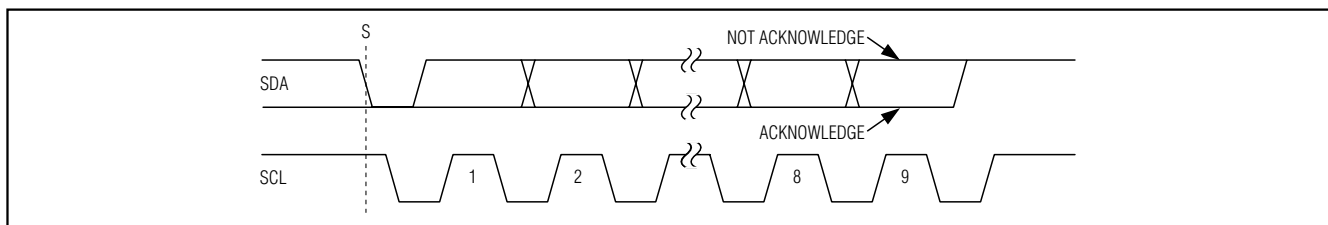

Figure 8. Acknowledge Bits
Successful data transfers are acknowledged with an acknowledge bit (A) or a not-acknowledge bit (\bar{A}). Both the master and the MAX1069 (slave) generate acknowledge bits. To generate an acknowledge, the receiving device must pull SDA low before the rising edge of the acknowledge-related clock pulse (ninth pulse) and keep it low during the high period of the clock pulse (Figure 8). To generate a not acknowledge, the receiver allows SDA to be pulled high before the rising edge of the acknowledge-related clock pulse and leaves it high during the high period of the clock pulse.